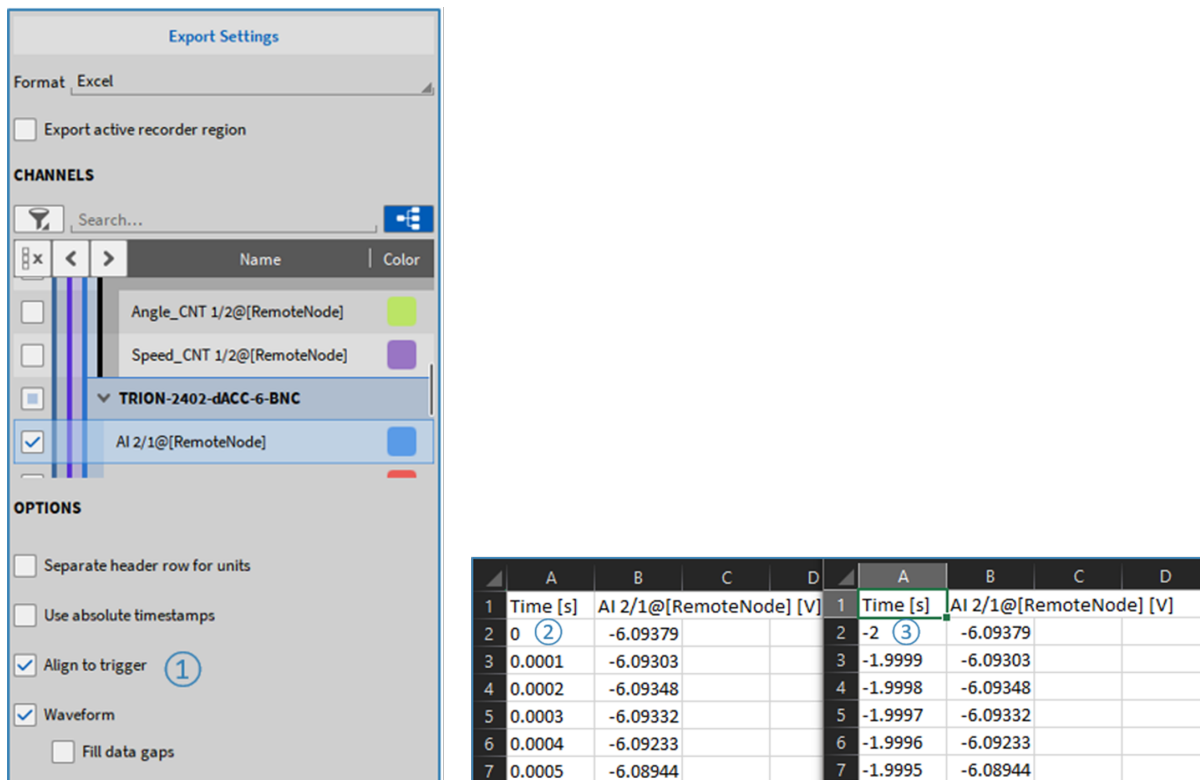

Fig. 11.5: Align timestamps in exported file to zero
Timestamps in an exported data file with a triggered event can be aligned to the trigger (see ① in Fig. 11.5). If align to trigger is not selected, then the 0s timestamp will be at recording start, not at the trigger (see ② in Fig. 11.5). If align to trigger is selected, the timestamp at the trigger will then be set to zero. Thus, the time leading up to the trigger event (e.g. the pre-time) will be negative (see ③ in Fig. 11.5).